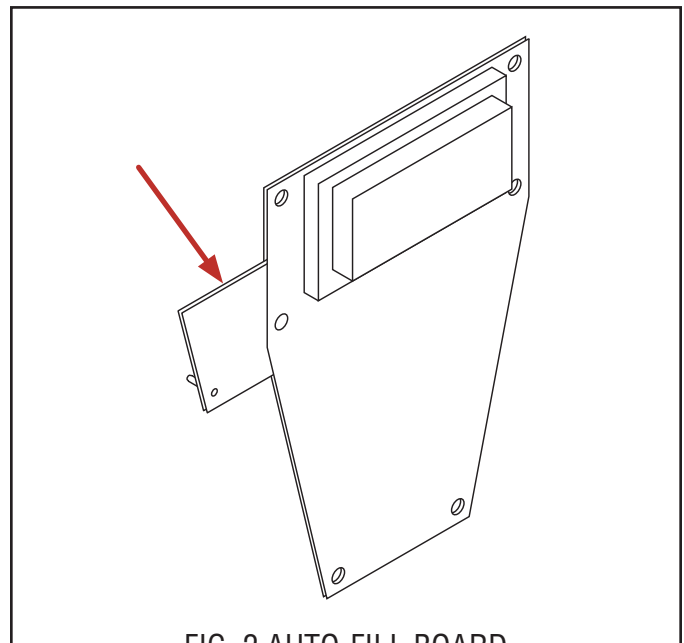

FIG. 2 AUTO-FILL BOARD
5. On models with Auto-Fill (CFV OR LAF Models), remove the auto-fill adapter board from the backside of the main control board. See FIG. 2.